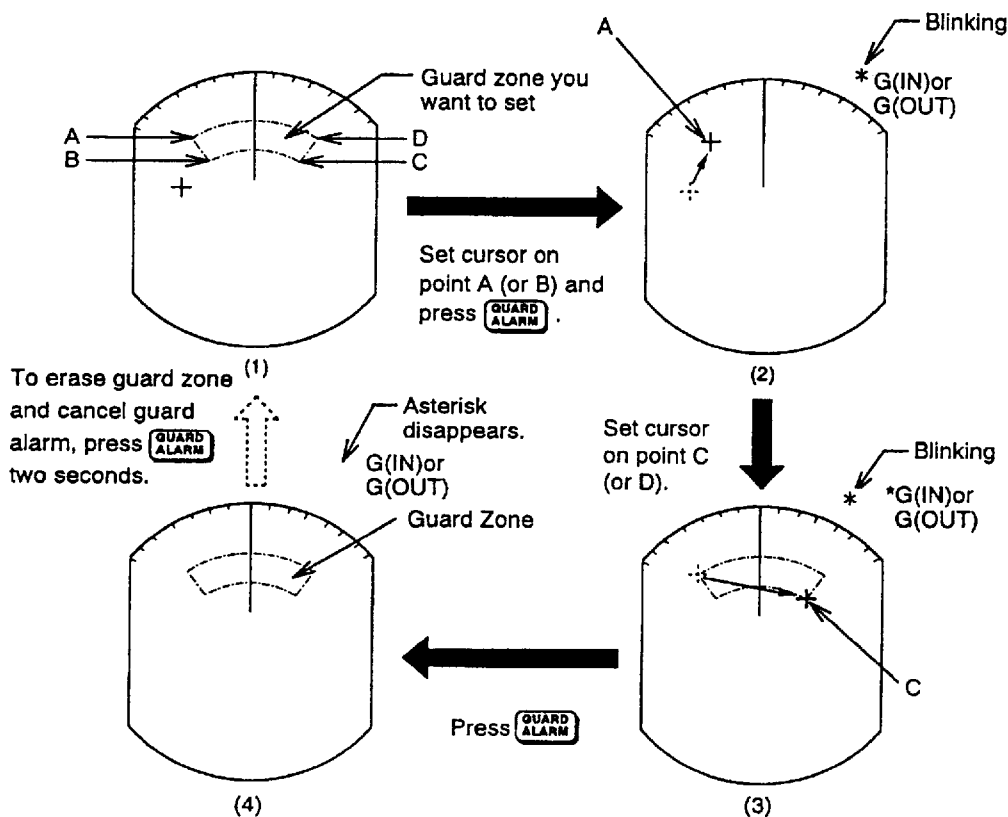

Figure 1-18 How to set the guard zone
- 2) Operate the trackball to set the cursor on point A or B. Press the **GUARD ALARM** key. “*G (IN)” or “*G (OUT),” with asterisk blinking, appears at the top right-hand corner of the display. See Figure 1-18 (2). (The asterisk indicates the guard zone is partially set.)
- 3) Operate the trackball to set the cursor on point C or D. See Figure 1-18 (3).
- 4) Press the **GUARD ALARM** key. The asterisk disappears. See Figure 1-18 (4).